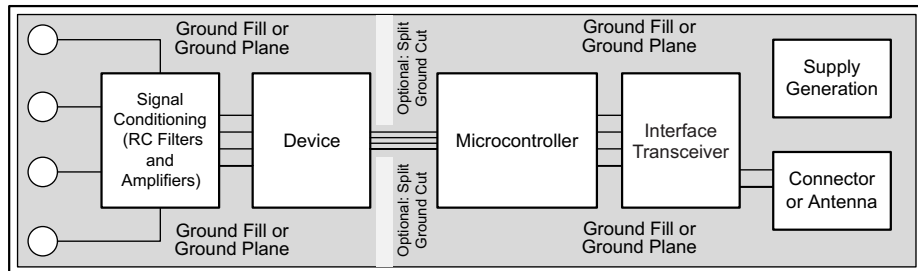

图 120. System Component Placement
Employing best design practices is recommended when laying out a printed-circuit board (PCB) for both analog and digital components. This recommendation generally means that the layout separates analog components [such as ADCs, amplifiers, references, digital-to-analog converters (DACs), and analog MUXs] from digital components [such as microcontrollers, complex programmable logic devices (CPLDs), field-programmable gate arrays (FPGAs), radio frequency (RF) transceivers, universal serial bus (USB) transceivers, and switching regulators]. An example of good component placement is shown in Figure 120. Although Figure 120 provides a good example of component placement, the best placement for each application is unique to the geometries, components, and PCB fabrication capabilities employed. That is, there is no single layout that is perfect for every design and careful consideration must always be used when designing with any analog component.